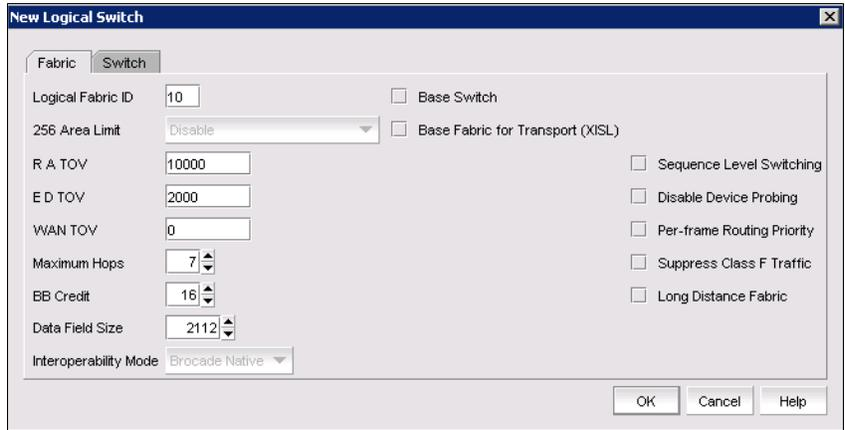

Figure 6-34 Assign fabric ID to logical switch
9. Use the same fabric ID (10) of ITS0_8510_SiteA_FID10_pub for this logical switch (Figure 6-34). Clear the check boxes **Base Fabric for Transport (XISL)** and **Base Switch**.